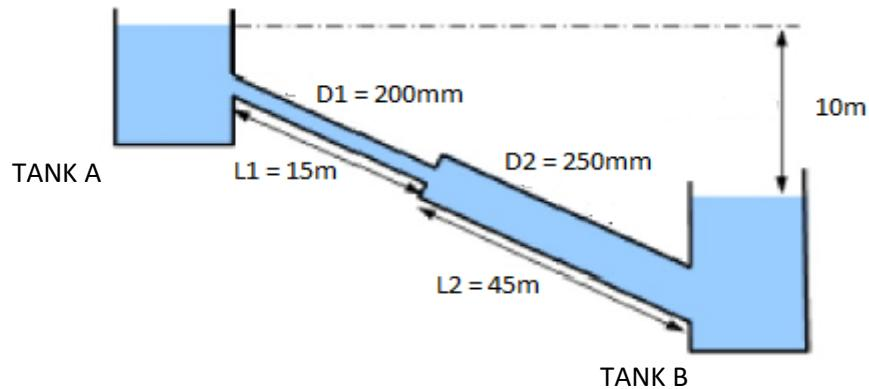

Figure B4 (c) / Rajah B4(c)
- (c) Head loss refers to the total pressure losses sustained by the fluid as it flows from the suction point to the discharge point. Head loss occurs when the liquid loses momentum as it flows, and depends upon fluid viscosity, pipe diameter, pipe length and accessories such as valves and elbows within the pipework. Referring to figure B4(c), the inlet and outlet pipes are connected to the tank. Determine the total head loss of flow rate for the flow system if the inlet and outlet velocity can use 5.27 m/s and 3.37 m/s data. (Take $f = 0.01$)